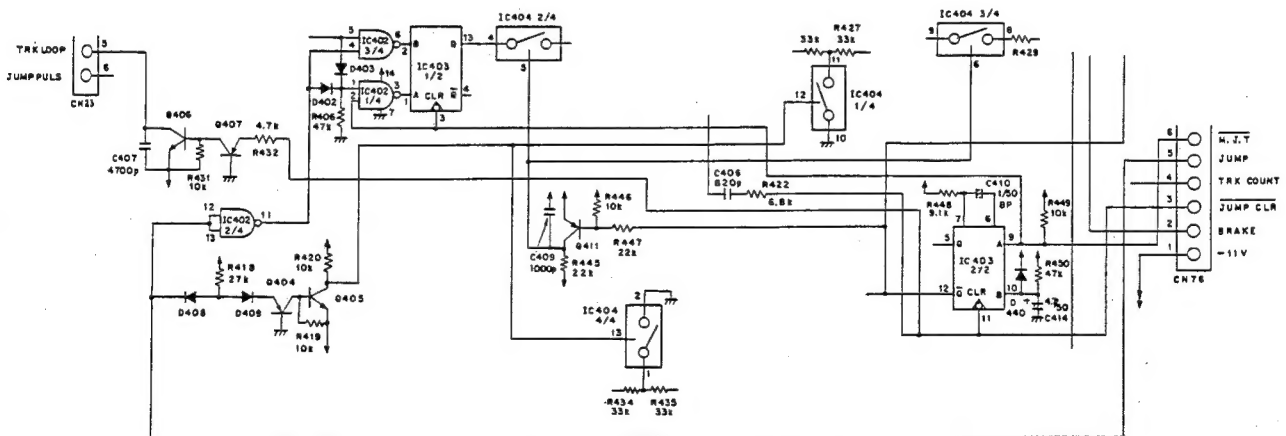

Fig. 5-1 Jump control circuit
1) Jump Control Circuit (Fig. 5-1)